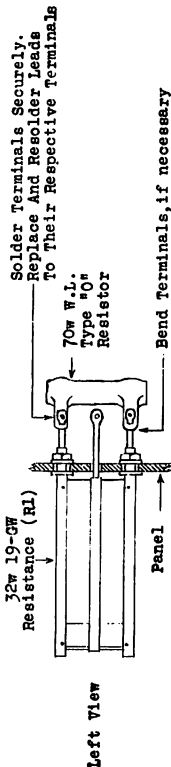

FIG. 1
5.1.2 Procedure - As shown in Fig. 1. Change code marking per E.B. "Equipment Modifications, General", F.R. 4.01.
- (a) Install 70W Resistor per Fig. 1
5.3.2 Procedure - As shown in Fig. 1, ASO-3761